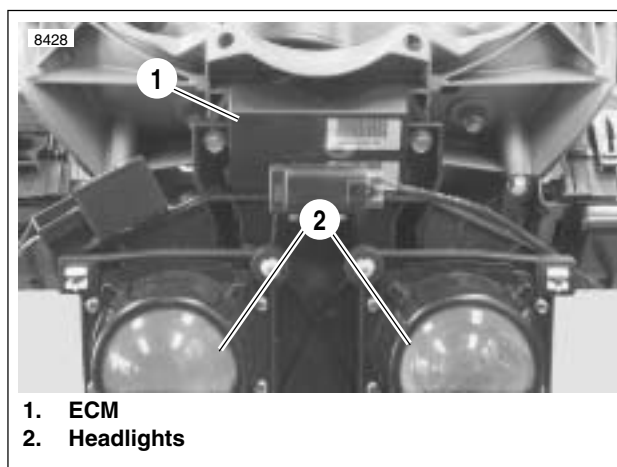

Figure 4-14. Electronic Control Module
2. See Figure 4-14. Inspect connector [10] (black) for contamination or corrosion. If connection is good, replace ECM. See 4.30 ELECTRONIC CONTROL MODULE.